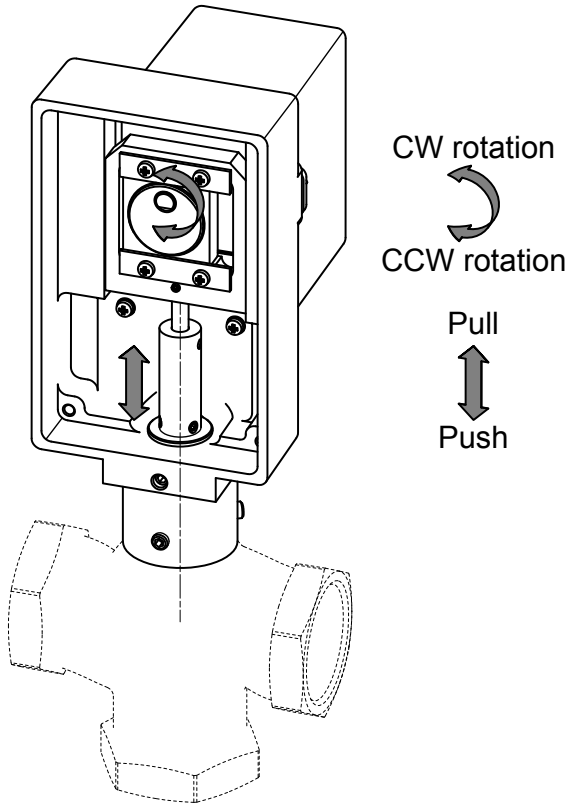

Fig. 5.8: Series VK – direction of rotation and action
- **Series VK:** Limit switch SL is operated by control cam NL when the actuator travels in the “push” direction (see Fig. 5.8).
- If mains voltage is applied between terminal **1** and **3**, the output shaft rotates in **right-hand** direction (CW).
- **Series VK:** Limit switch SR is operated by control cam NR when the actuator travels in the “pull” direction (see Fig. 5.8).